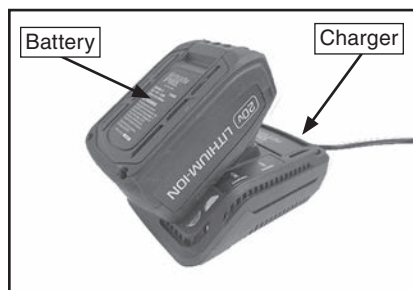

Figure 7. Battery charging in Model T30302 Fast Charger (not included).
3. Slide battery into charger until battery clicks in place (see **Figure 7**). Red light will illuminate while battery is charging. When green light illuminates, battery is fully charged.